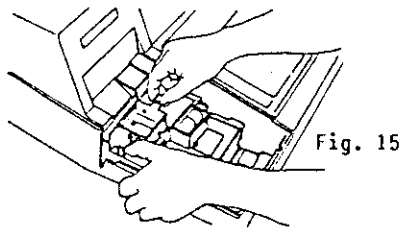
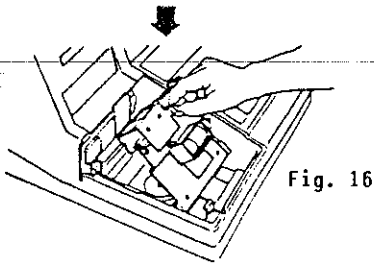

Fig. 15
Fig. 16
3. Open the Cutter Block by pulling it upward while pressing the leftside lever outward. (Fig. 15 and Fig. 16)
3. Open the Cutter Block (Fig.15 and Fig.16).